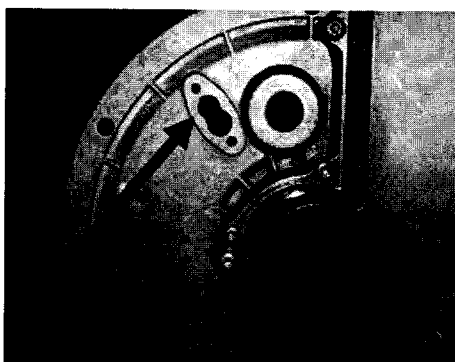

Figure 3 – Plate with 3/8" Filed Opening
6. On boilers with "old" style igniters and plates, use a round file to open the existing igniter hole to a round, 3/8" opening to accept the new igniter. See Figure 3.